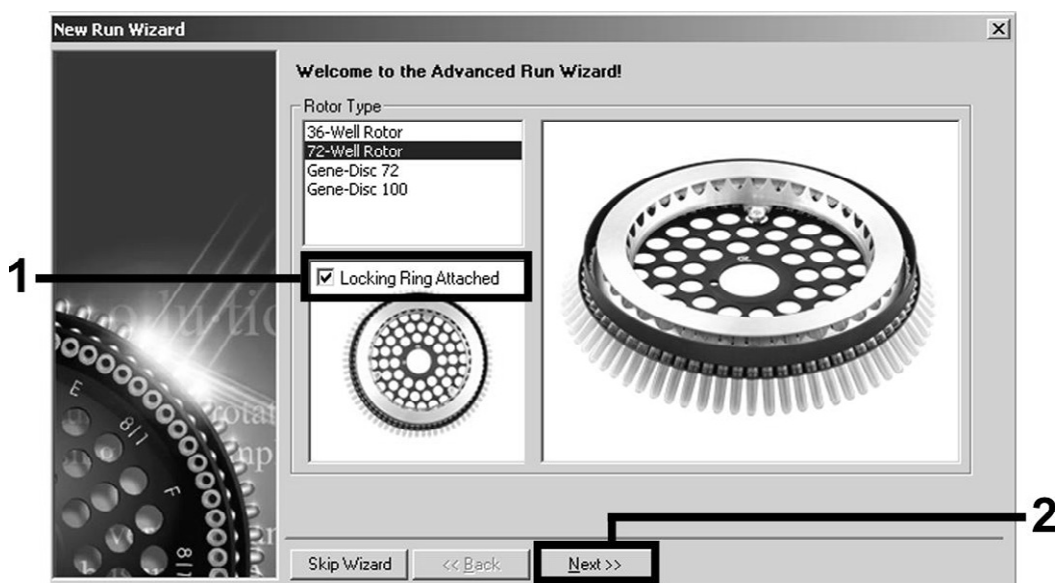

Figure 1. The “New Run Wizard” dialog box.
- Open the “New Run Wizard” dialog box (Figure 1). Check the “Locking Ring Attached” box and click “Next”.